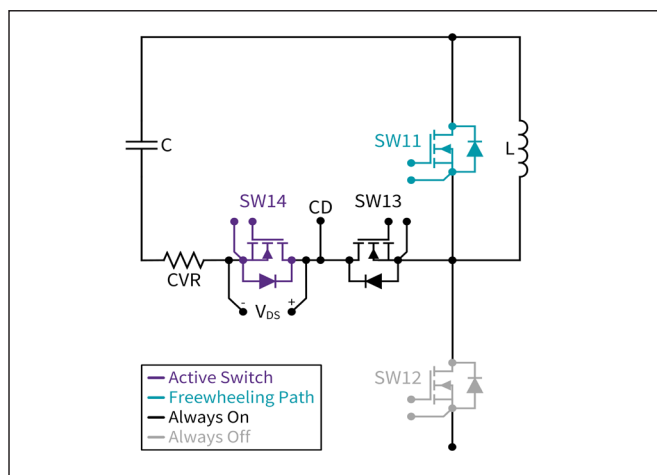

Figure 33. Switching Loss Measurement
Note (7): Figures 11-28 are representative of switch positions M11 and M14 (page 10) corresponding to the top-side high-frequency loop. The circuits for switching loss and reverse recovery measurements are shown in figures 33 and 34.